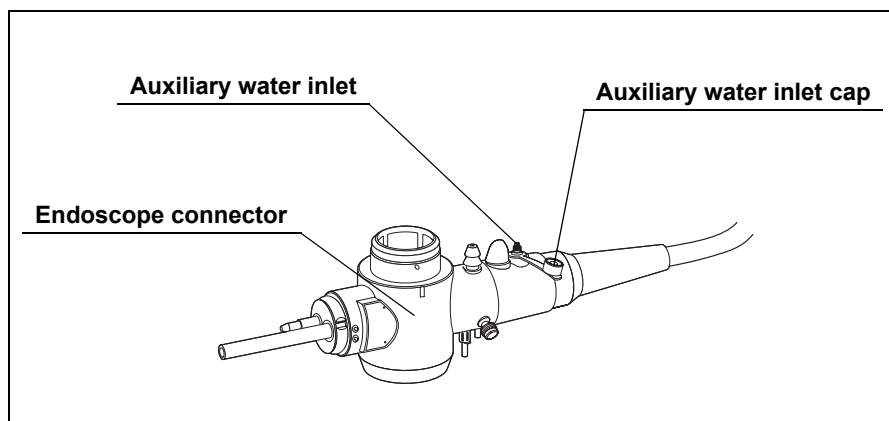

Figure 3.12
1. Confirm that the auxiliary water inlet cap attached to the endoscope connector has no dents, cracks or other irregularities (see Figure 3.12).